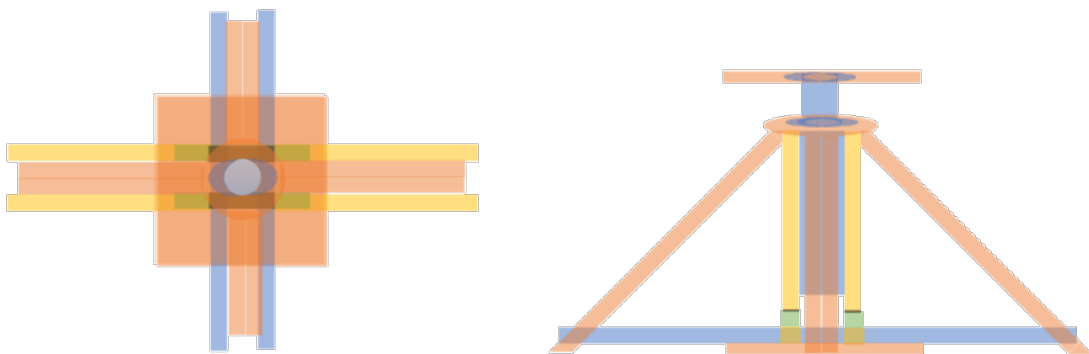

Figure 9. Deadweight tester diagram
Now, the inclined Stick Pairs that will give support to the structure must be adjusted from the ends as shown below in Figure 9.
10. Finally, stand the Stick Pairs in between the spaces of the Cross Base's ends, with the Right Ends of stick diagrams to the floor, and the other Left End to the circular wooden slab bottom side. See *Figure 9*.